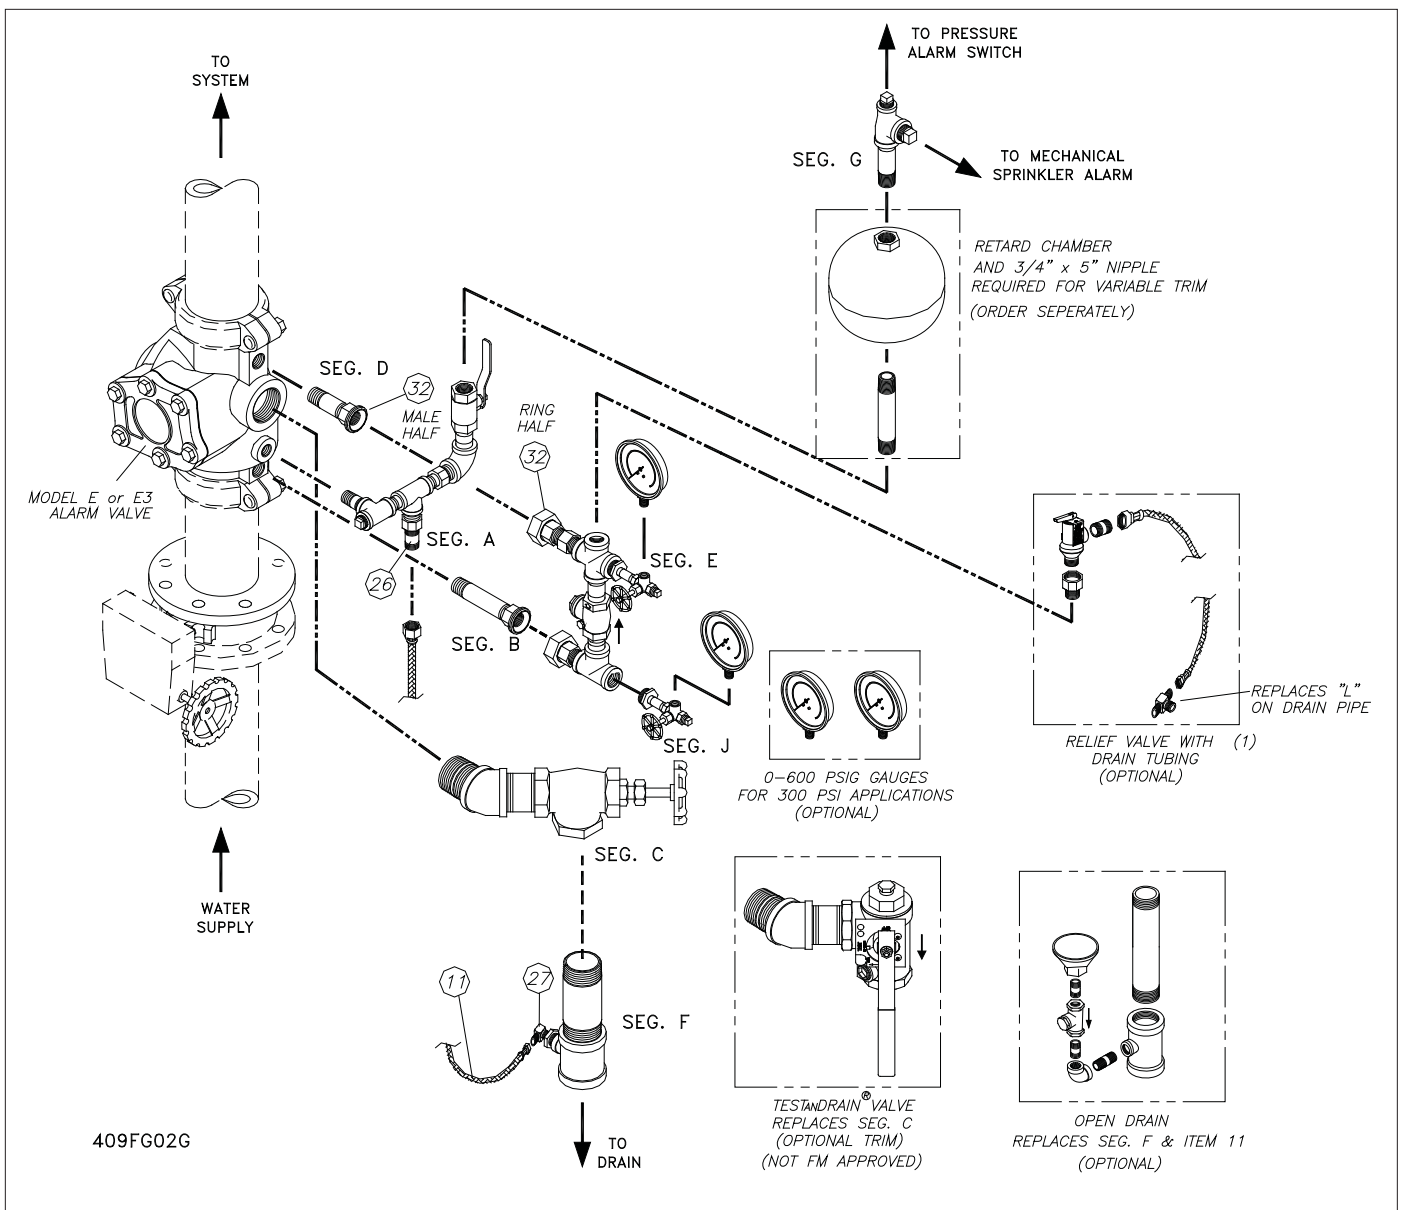

Figure 2 - Model E3 Alarm Valves with Variable Pressure Trim
The basic trims of the Reliable Model E3 High Pressure Alarm Valve (Figure 2) are arranged for rapid, easy and compact attachment. They serve as a connecting point to Reliable alarm and other devices. The trims also serve as a means for testing the operation of the alarm devices while exercising the alarm valve clapper. Two Model E3 High Pressure trim sets are available for use with the Model E3 High Pressure Alarm Valve. These trims come standard with 0 to 300 psi gauges for 175 psi applications. For 300 psi applications the 0 - 600 psi gauge kit must be ordered. Note: Due to changing Approval agency requirements, the gauges supplied with the 300 psi kit may not be listed at time of ordering.
• Variable Pressure Vertical Installation (Figure 2)
• **Constant Pressure Vertical Installation (Figure 2)**